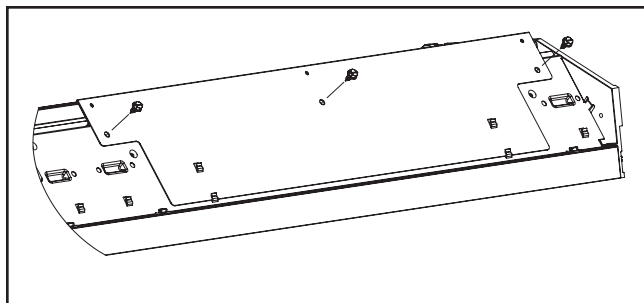

Figure 3.
3. Mount the surface mount over driver mount bracket using three screws (Figure 3).